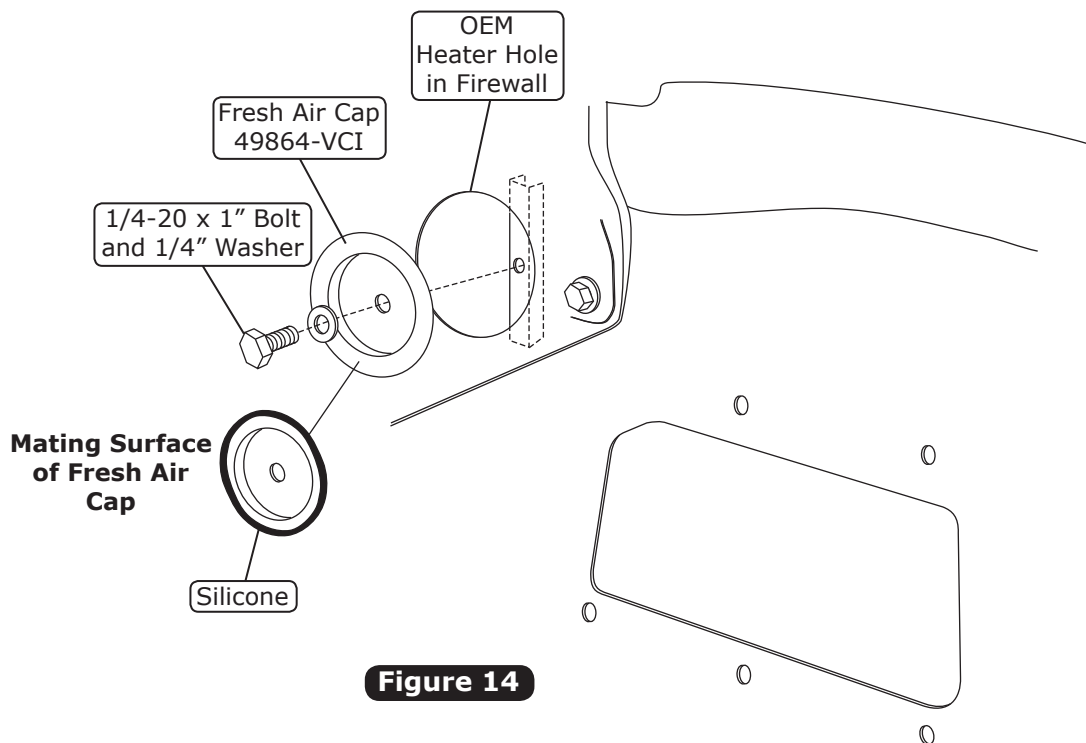

Figure 14
1. Apply a 1/4" bead of silicone around the mating surface of the fresh air cap as shown in Figure 14, below.
2. Attach the fresh air cap to the firewall using a 1/4-20 x 1" bolt and a 1/4" washer as shown in Figure 14, below. **NOTE: The fresh air cap installs onto the engine side of the firewall.**